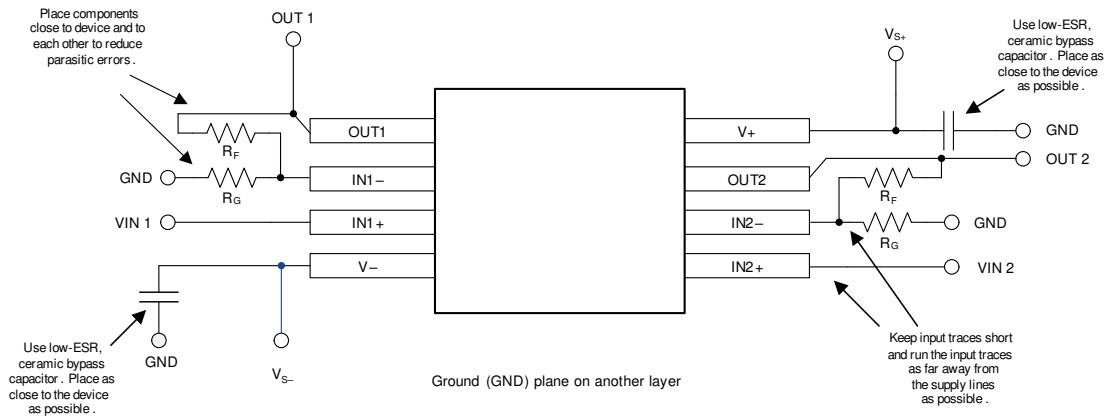

Figure 35. Layout Example
- Place the external components as close to the device as possible, as shown in Figure 35. Keeping R_F and R_G close to the inverting input minimizes parasitic capacitance.